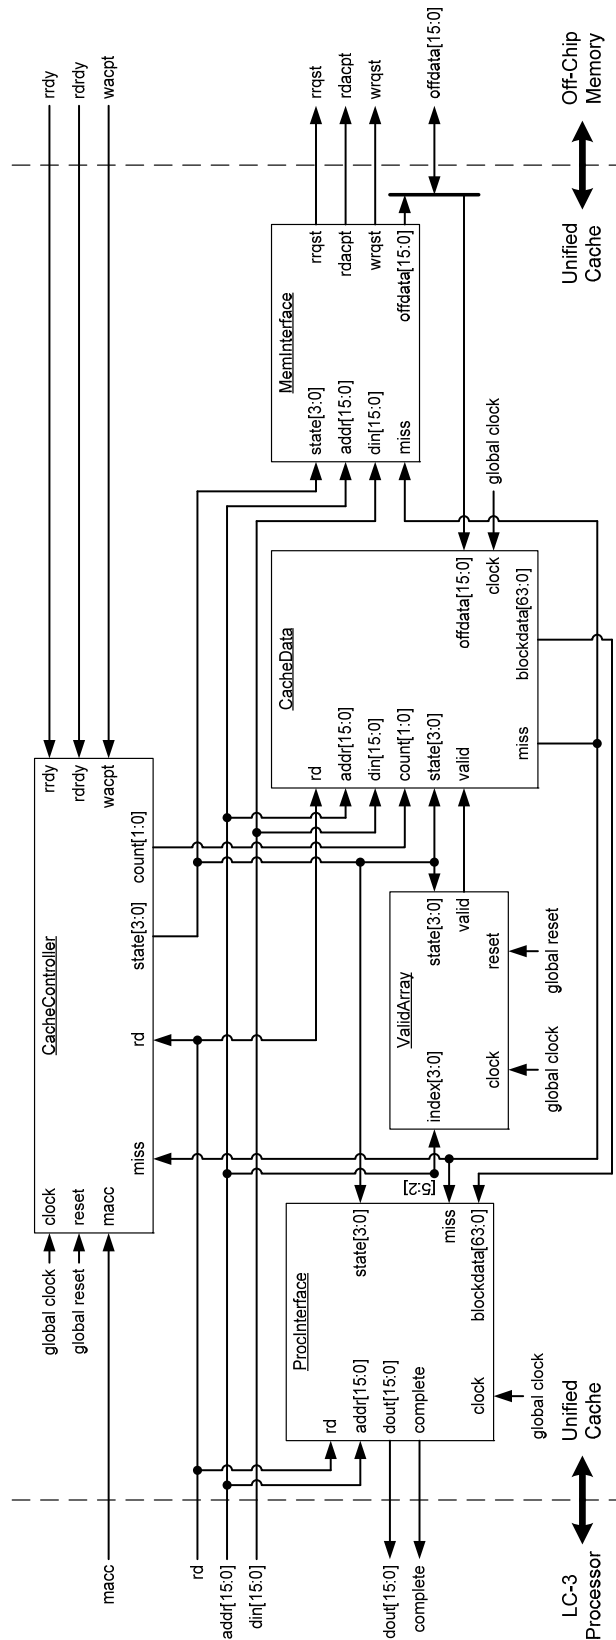

Figure 5. UnifiedCache Schematic
A schematic of the complete cache is shown in Figure 5. The key components are described briefly below.
- **index[3:0]** – The block index that is being accessed. In Figure 5, note that this value is connected to bits [5:2] of the 16-bit address from the LC-3 CPU.